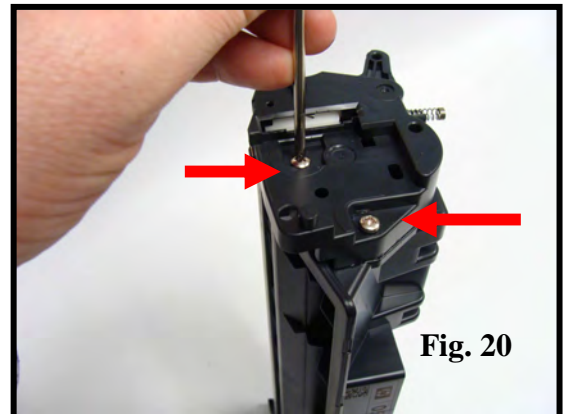

Fig. 20
20. Use two self-tapping screws to secure the end cap to the toner hopper. Hand-tighten the two screws in the holes that were drilled out to remove the end cap (Fig. 20).